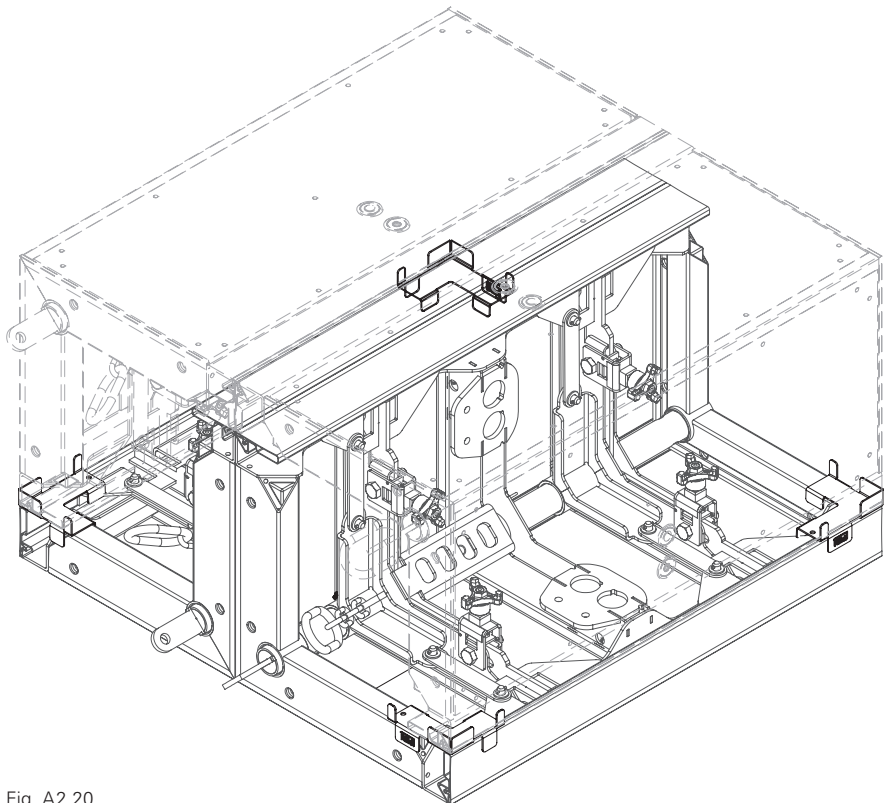

Fig. A2.20
- four shaft corners. Only fit Stacking Devices MXSE flat (**13**) on the corners at the bottom. (Fig. A2.20)